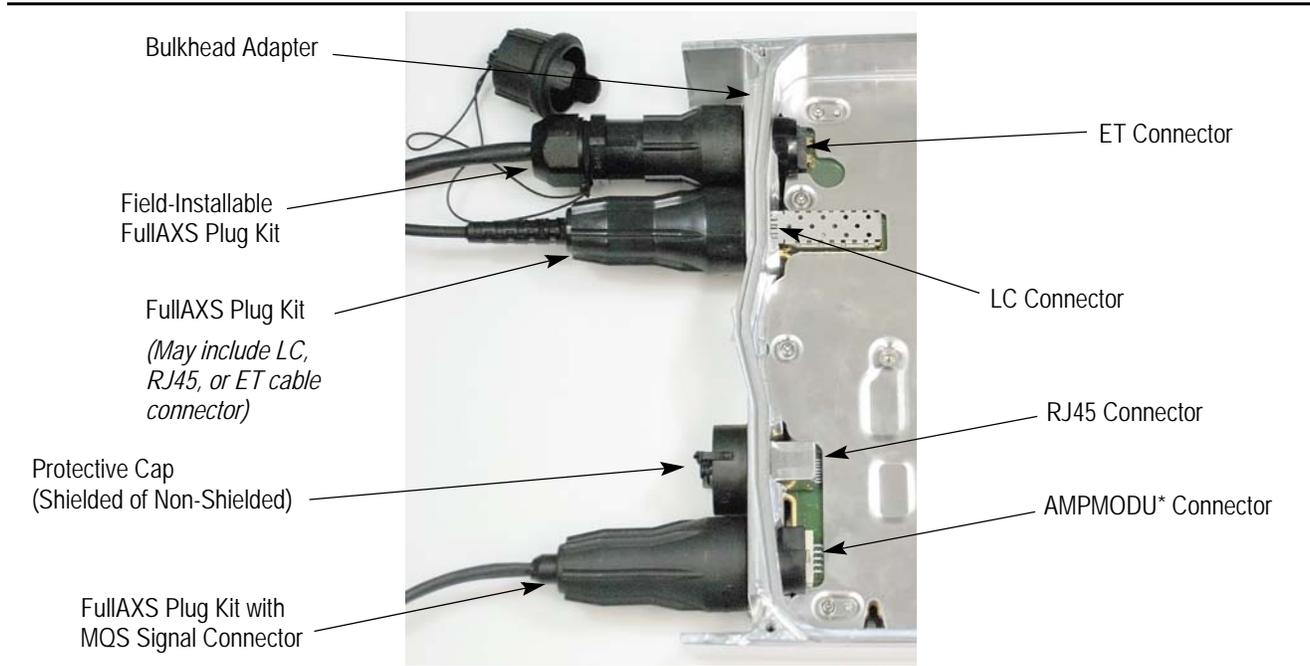
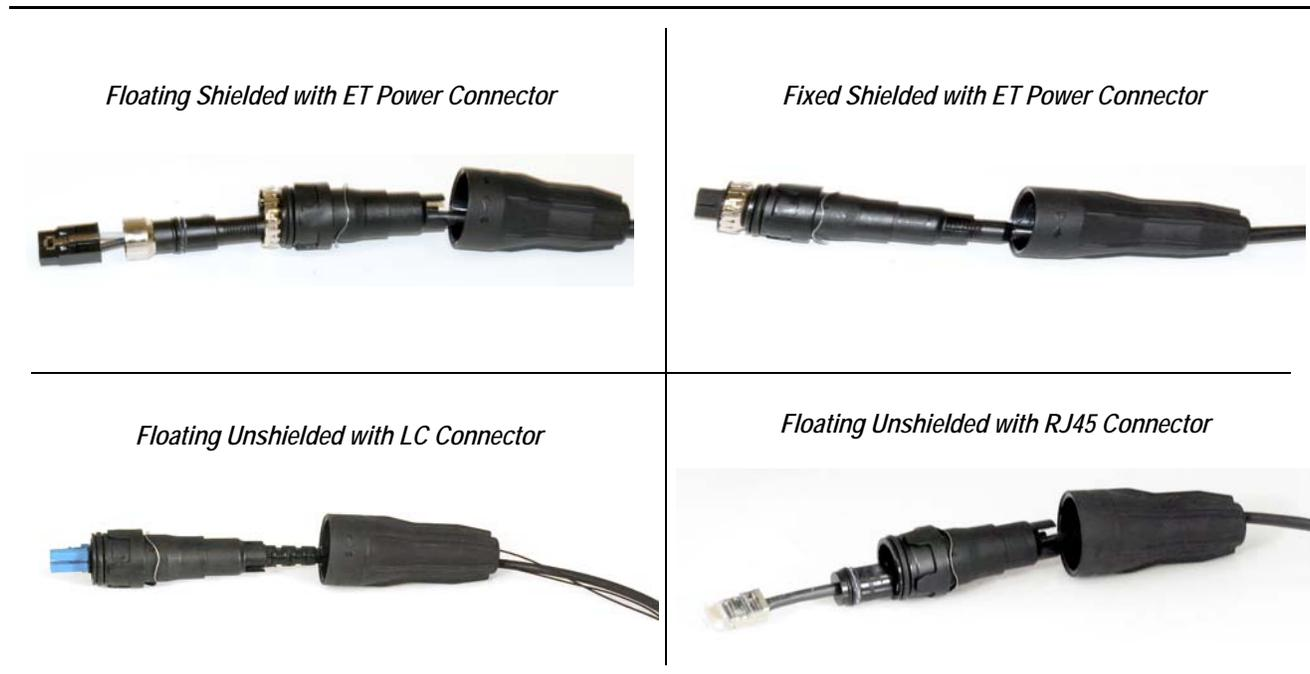

Figure 1
Figure 8
When corresponding with personnel, use the terminology provided in this specification to facilitate your inquiries for information. Basic terms and features of this product are provided in Figure 1.
- Changed Figures 1, 9, (was Figure 8), and 14 (was Figure 13).
This section describes the procedure used to mate the cable connector with the bulkhead panel connector. The procedure is similar, regardless of the style of cable connector used. Typical cable connectors are shown in Figure 8.